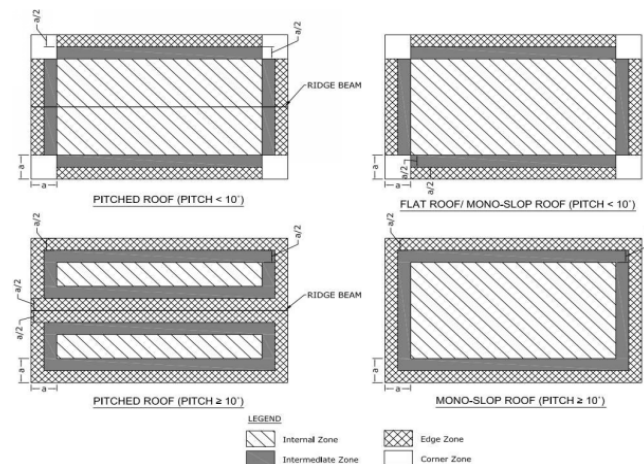

Figure 2 - Roof Zones Definition
*Refer to Note 7- Figure 2 for roof zone definition.
Note 7 Refer Figure 2 for definition of roof zones.
In Figure 2, the value of dimension "a" is the minimum of 0.2b, 0.2d and h. (b & d are building dimensions and h is its height)